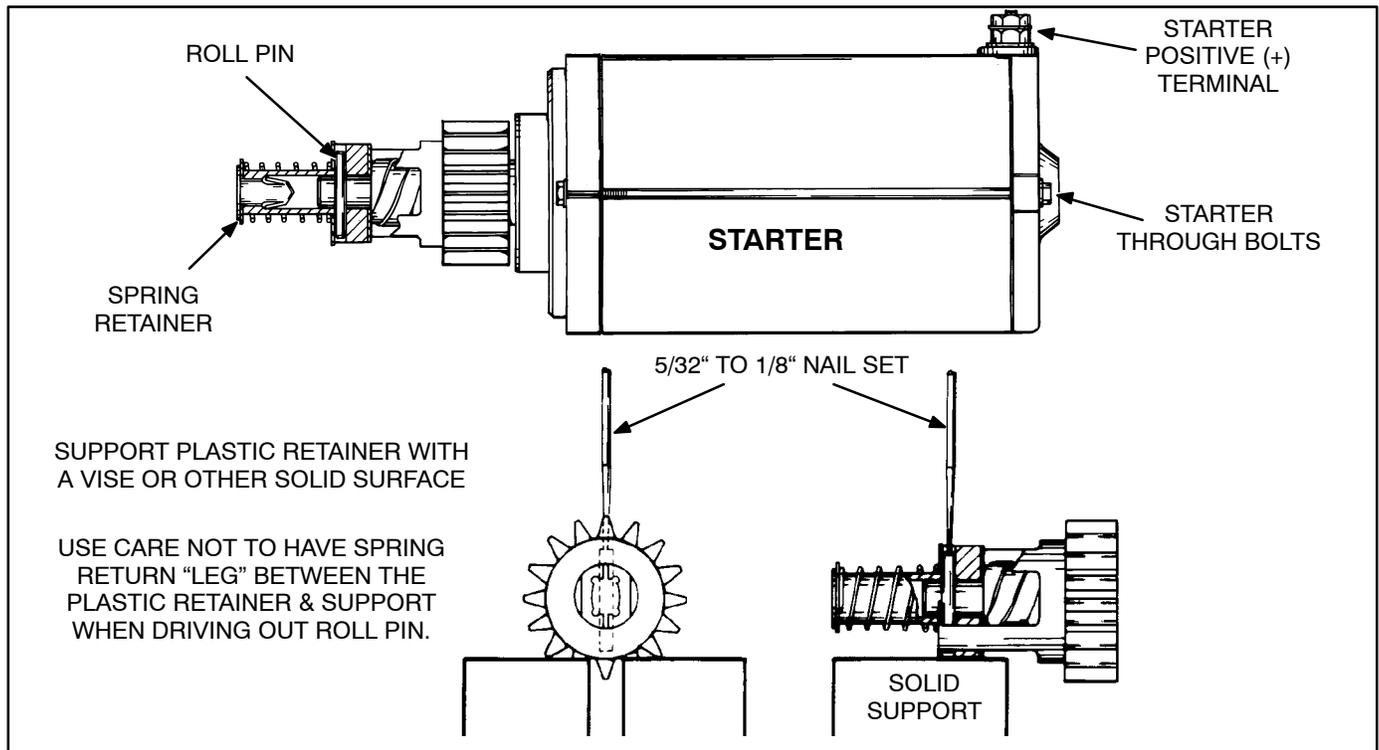

FIGURE 8-18. DRIVING ROLL PIN OUT OF STARTER ASSEMBLY
5. Use a 1/8 inch nail set to remove the roll pin in the armature shaft. Remove the return spring, gear and clutch assembly (Figure 8-18).